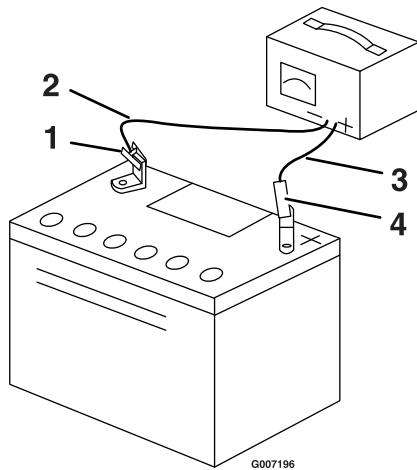

Figure 29
- When the battery is fully charged, unplug the charger from the electrical outlet, then disconnect the charger leads from the battery posts (Figure 29).